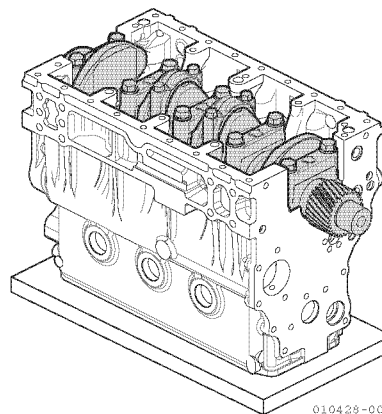

Figure 5-52
48. Turn the engine over, with the cylinder head mounting surface facing down (Figure 5-52).